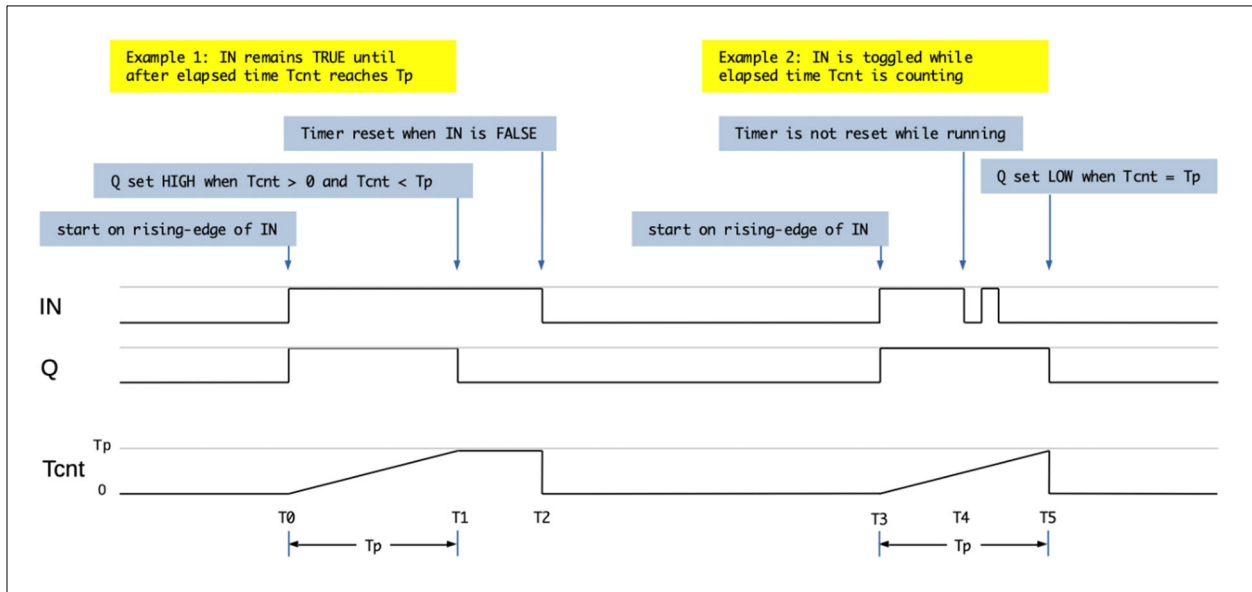

Figure 56 - Timer PULSE Function
Figure 56 - Timer PULSE Function shows the timer’s output (Q) as a function of the input (IN) state, elapsed time (Tcnt), and the user defined timer period (Tp).